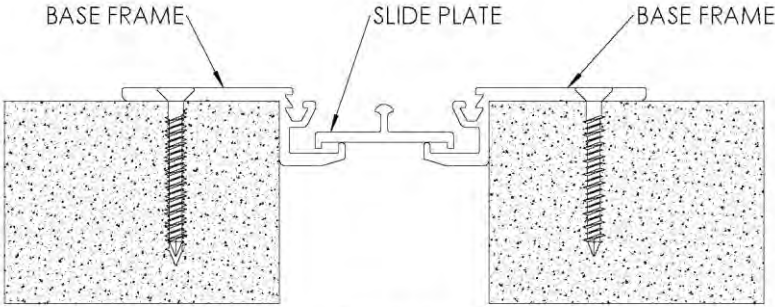

FIGURE 2
- 2. Place slide plate (not required on 1” joint sizes) in the lower channels of the base frames with the bent ends of the plate pointing downwards. **See Figure 2**